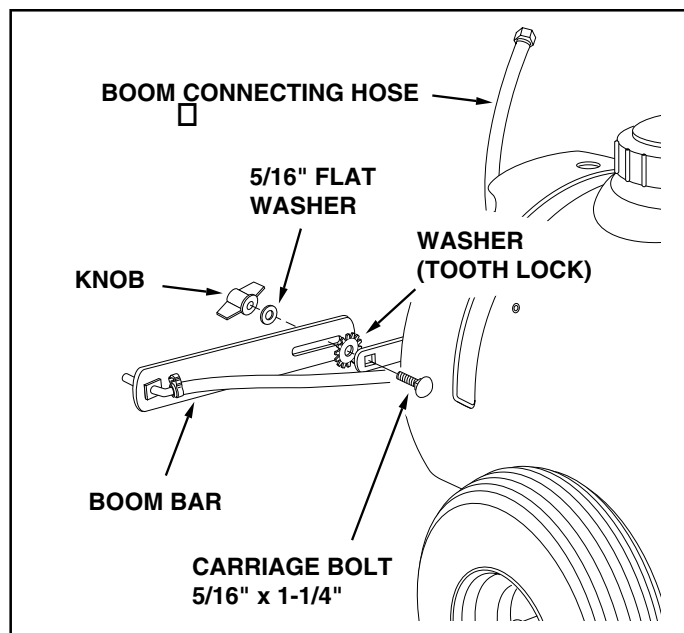

FIGURE 8
- Assemble the boom bars to the boom mount bracket using two 5/16" x 1-1/4" carriage bolts, tooth lock washers (between the bar and bracket), 5/16" flat washers and knobs. The boom connecting hose should extend upward. See figure 8.